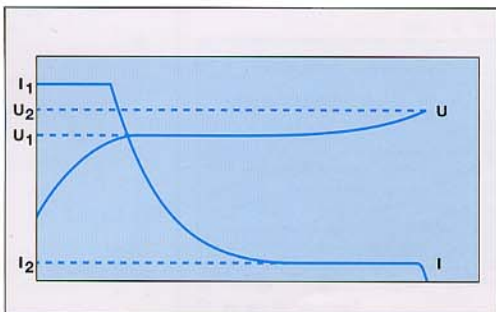

Fig. 8 :
Sulphation of the plates can also occur if the batteries are discharged with discharge currents  $< 0,2 \cdot I_{20}$ . The batteries can then only be charged with a suitable charge process e.g. a charge with the IUI-characteristic (cf. fig. 8).
*IUI-characteristic Charging (Fig. 8)*